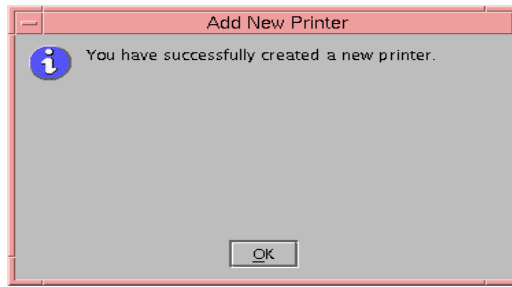

Figure 11. Success!
5. If successful, you receive the message shown in Figure 11 on page 73.